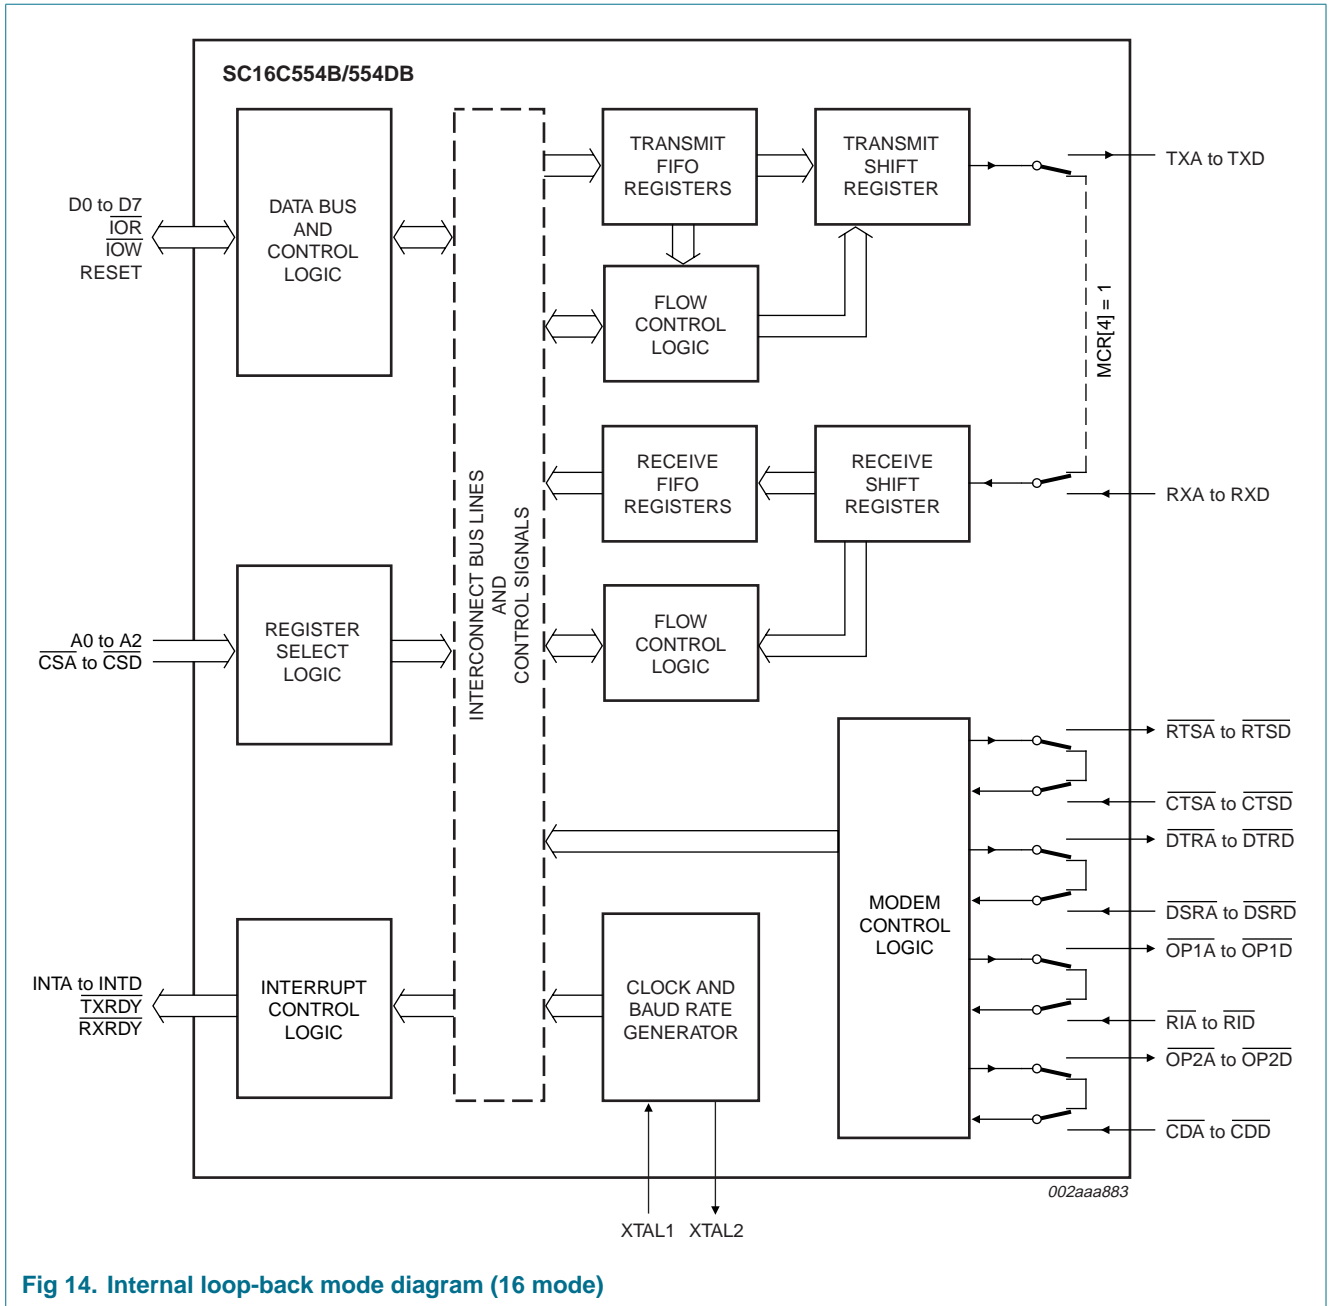

Fig 14. Internal loop-back mode diagram (16 mode)
The internal loop-back capability allows on-board diagnostics. In the loop-back mode, the normal modem interface pins are disconnected and reconfigured for loop-back internally. MCR[0:3] register bits are used for controlling loop-back diagnostic testing. In the loop-back mode,  $\overline{OP1}$  and  $\overline{OP2}$  in the MCR register (bits 2:3) control the modem  $\overline{RI}$  and  $\overline{CD}$  inputs, respectively. MCR signals  $\overline{DTR}$  and  $\overline{RTS}$  (bits 0:1) are used to control the modem  $\overline{DSR}$  and  $\overline{CTS}$  inputs, respectively. The transmitter output (TX) and the receiver input (RX) are disconnected from their associated interface pins, and instead are connected together internally (see Figure 14). The  $\overline{CTS}$ ,  $\overline{DSR}$ ,  $\overline{CD}$ , and  $\overline{RI}$  are disconnected from their normal modem control input pins, and instead are connected internally to  $\overline{RTS}$ ,  $\overline{DTR}$ ,  $\overline{OP2}$  and  $\overline{OP1}$ . Loop-back test data is entered into the Transmit Holding Register via the user data bus interface, D0 to D7. The transmit UART serializes the data and passes the serial data to the receive UART via the internal loop-back connection. The receive UART converts the serial data back into parallel data that is then made available at the user data interface D0 to D7. The user optionally compares the received data to the initial transmitted data for verifying error-free operation of the UART TX/RX circuits.